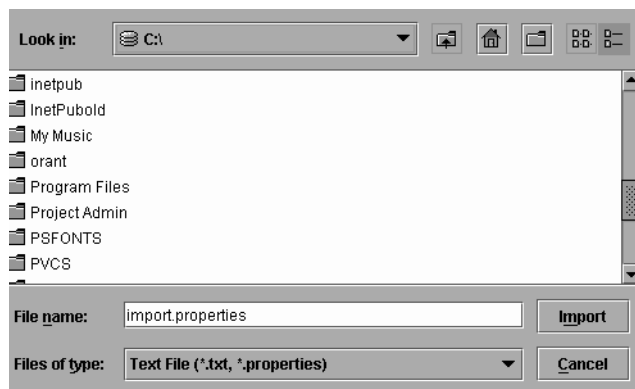

Figure 34: Import Nicknames Dialog Box
1. Click the **Import** button to display the **Import Nicknames** dialog box Figure 34).